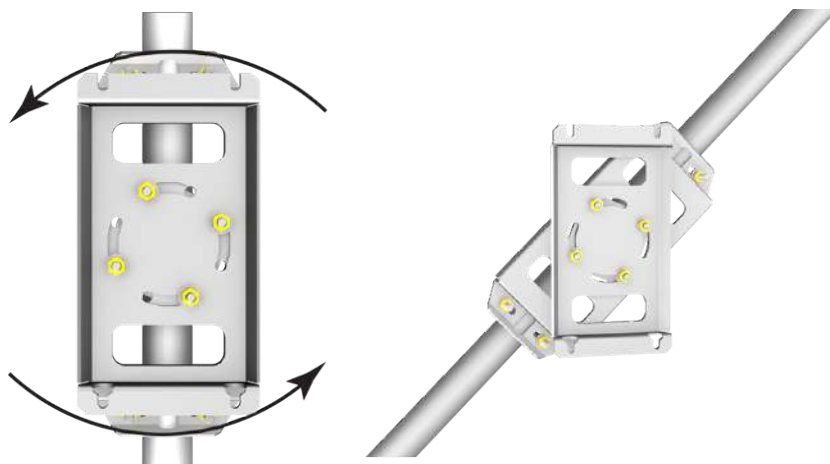

FIGURE 6-8. EC100 enclosure mounting bracket mounted on a vertical mast (left) and a tripod leg (right)
2. For configurations in which the pipe is not vertical (such as a tripod leg as in FIGURE 6-8) rotate the bracket to the side of the pipe so that when the enclosure is attached it will hang vertically upright. Make any necessary angle adjustments by loosening the four nuts and rotating the bracket plates relative to one another. If the necessary angle cannot be reached in the given orientation, remove the four nuts completely and index the top plate by 90° to allow the bracket to travel in the other direction (see FIGURE 6-8).